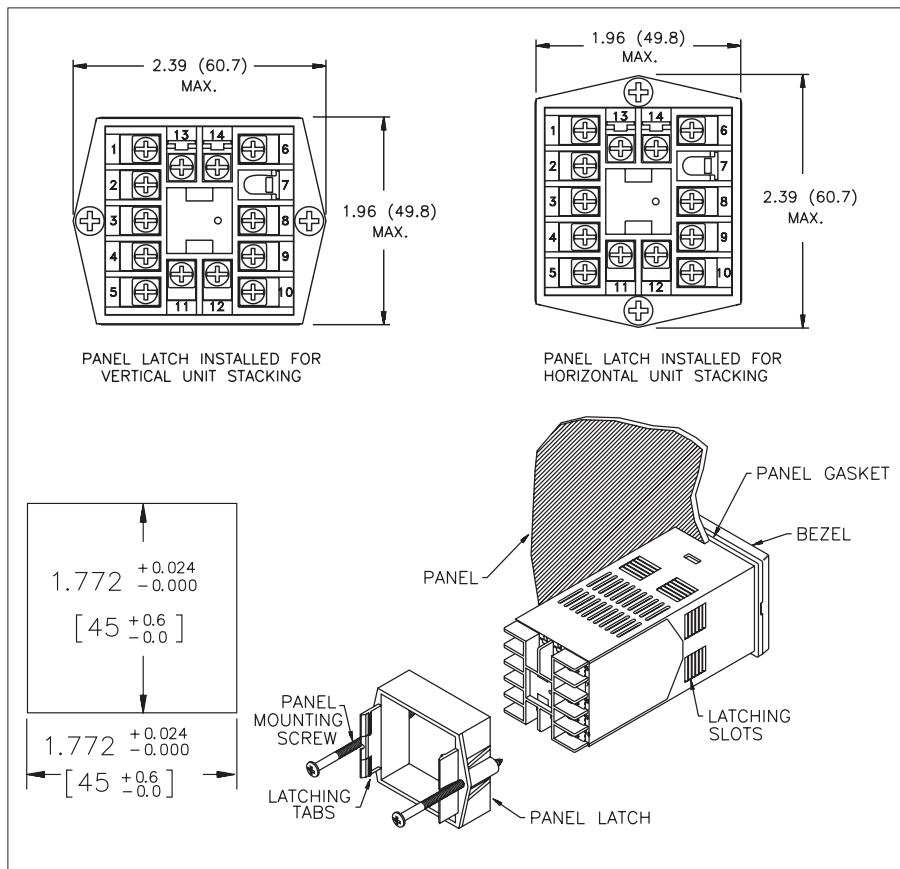

Figure 1, Panel Installation
The controller meets NEMA 4X/IP65 requirements for indoor use to provide a watertight seal in steel panels with a minimum thickness of 0.09 inch, or aluminum panels with a minimum thickness of 0.12 inch. The units are intended to be mounted into an enclosed panel. It is designed so that the units can be stacked horizontally or vertically (see Figure 1). The bezel assembly **MUST** be in place during installation of the unit.
1. Prepare the panel cutout to the dimensions shown in Figure 1, Panel Installation.